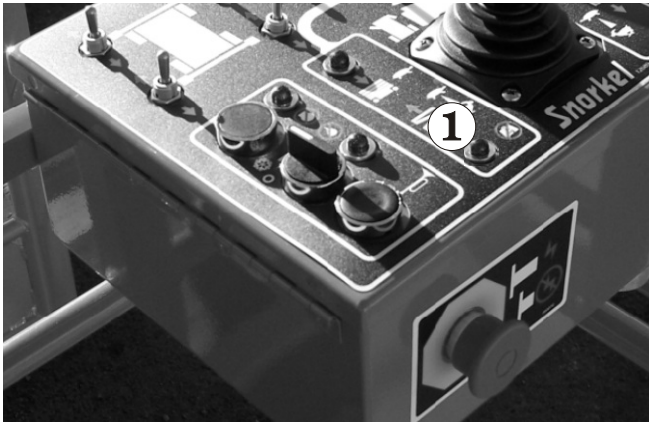

Figure 2.3 - Platform Overload Light
The alarm will sound and the overload light ❶ (see figure 2.3) will illuminate as soon as the overload point is reached.